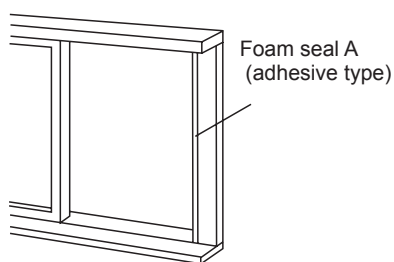

Fig. 12
1. Cut the foam seal (adhesive type) to the proper length and attach it to the window frame. See Fig.12.